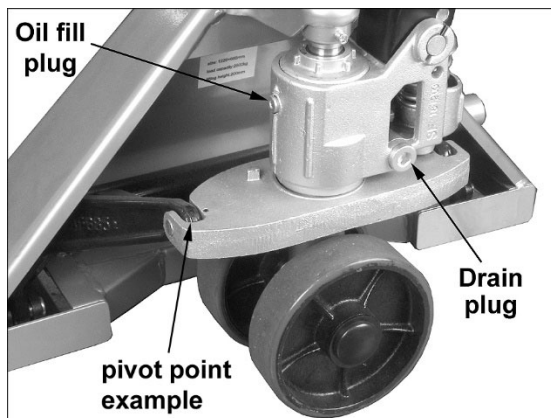

Figure 7-1
Check the oil level *annually* by unscrewing oil fill plug (Figure 7-1). Oil level should be near the bottom of the hole.
Also lubricate pivot points on the yoke, such as the one shown in Figure 7-1.
- Turn the pallet truck upright. Remove drain plug (see Figure 7-1) and empty the oil into a suitable container. Pump handle until all oil has drained.
- Remove drain plug (see Figure 7-1), and empty the oil into a suitable container. Pump handle until all oil has drained.